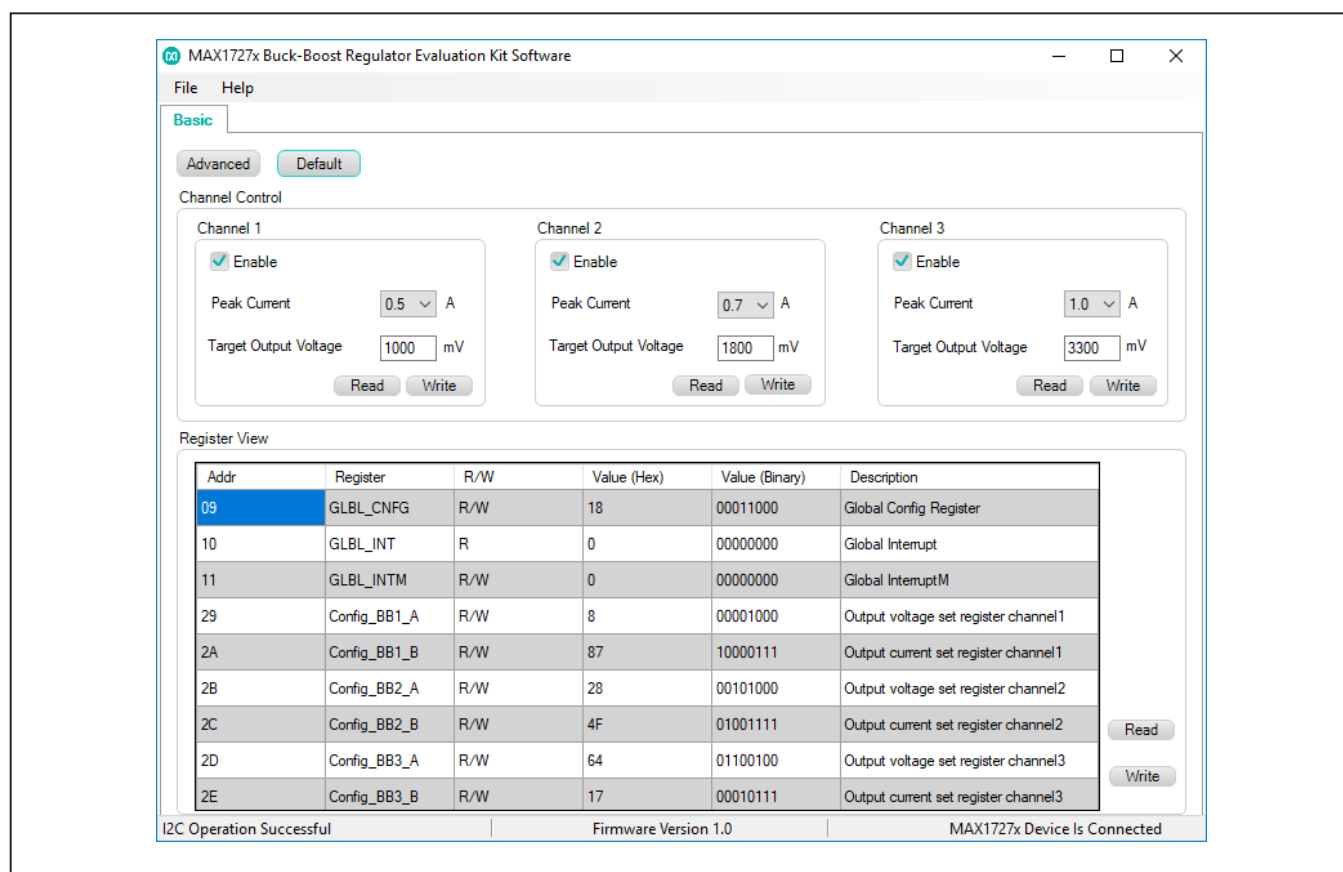
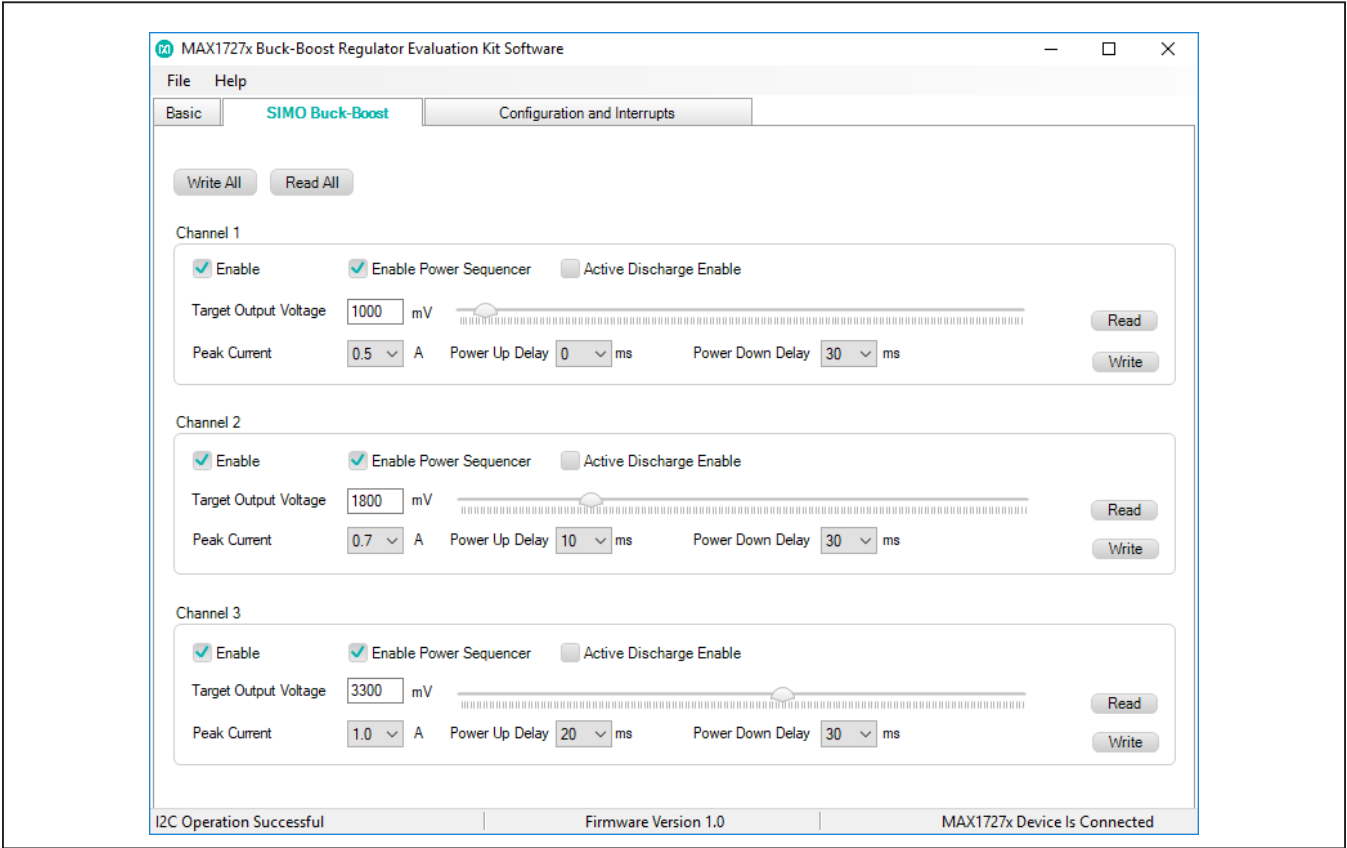
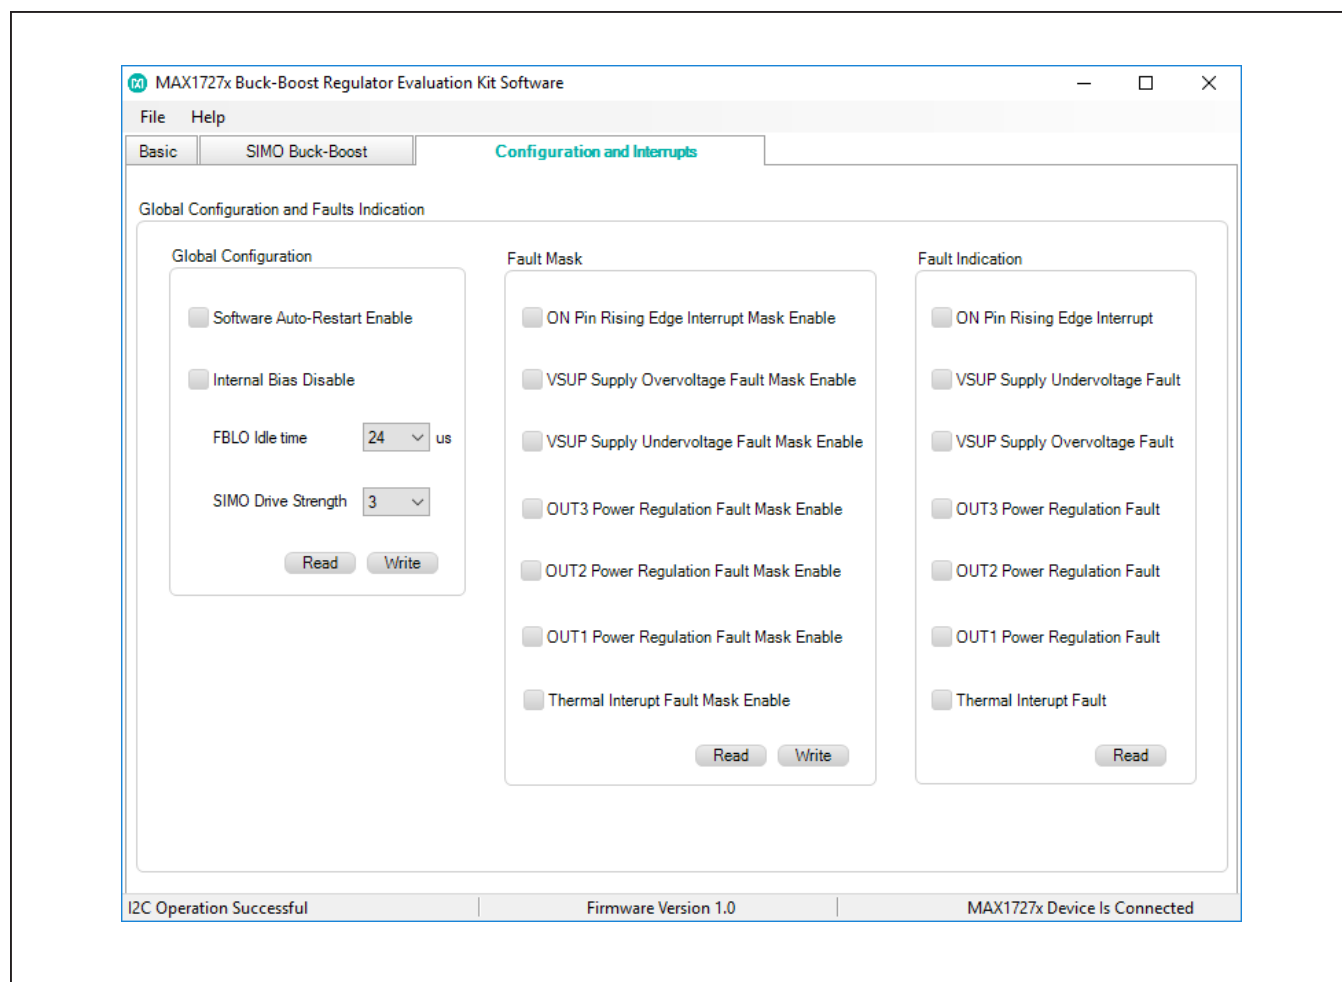

Figure 1. MAX17271 Evaluation Kit Software Default (and Advance) Mode, Basic Panel Window
Figure 2. MAX17271 Evaluation Kit Software Advance Mode, SIMO Buck-Boost Panel Window
Figure 3. MAX17271 Evaluation Kit Software Advance Mode, Configuration, and Interrupts Panel Window
- 6) Open the EV kit GUI, MAX17271EVKit.exe and select **File→Connect**. See Figure 1.
- 18) Open the EV kit GUI, MAX17271EVKit.exe and select **File**→**Connect**. See Figure 1.
The MAX17271 EV kit software GUI shown in Figure 1 provides a convenient means to control the MAX17271. The MAX17271 EV Kit software features two operation modes: Default and Advanced modes. The Default mode provides only one control panel, the Basic panel (Figure 1). While the Advanced mode provides three control panels, the Basic, the SIMO Buck-Boost, and the Configuration and Interrupts panels (Figure 2 and Figure 3).